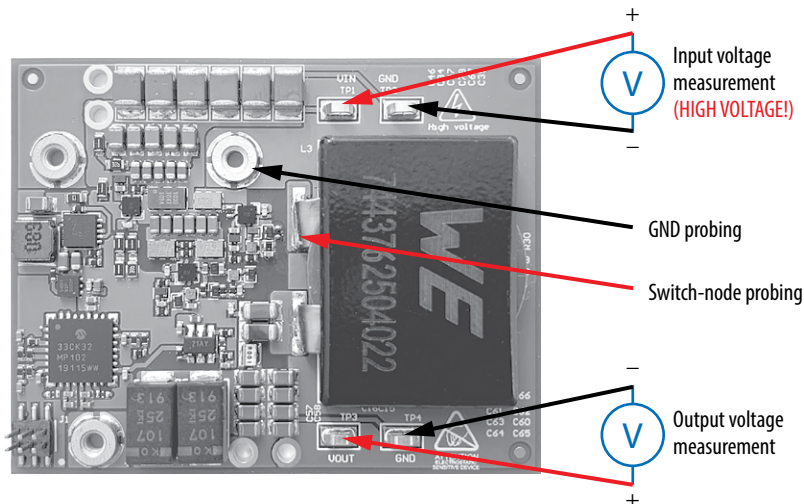

Figure 4: Measurement connection
3. Making sure the initial input supply voltage is 0 V, turn on the power and increase the voltage to the required value (do not exceed the absolute maximum voltage 60 V). Output voltage regulation begins at 44 V input voltage or lower for lower output voltage. Probe switching node to see switching operation as shown in Figure 4.
4. Once operational, adjust the load within the operating range and observe the output switching behavior, efficiency and other parameters as in Figure 4.